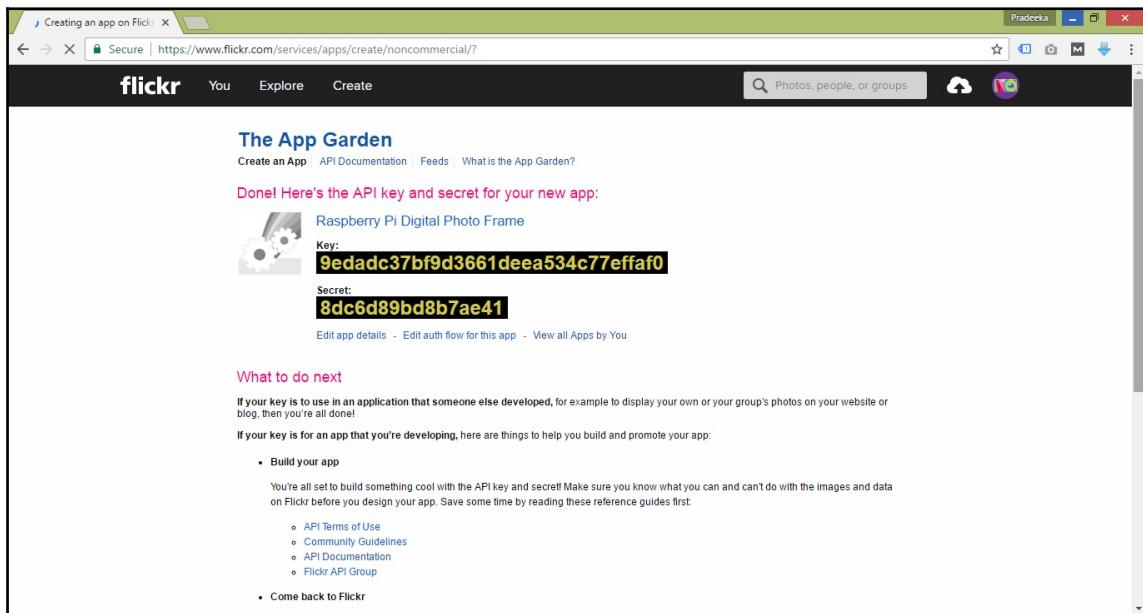

Figure 3-14: Key and secret for app
6. You will get an API key and secret similar to those shown in the Figure 3-14. Furthermore, you can edit the app by clicking on the app title (**Raspberry Pi Digital Photo Frame**):